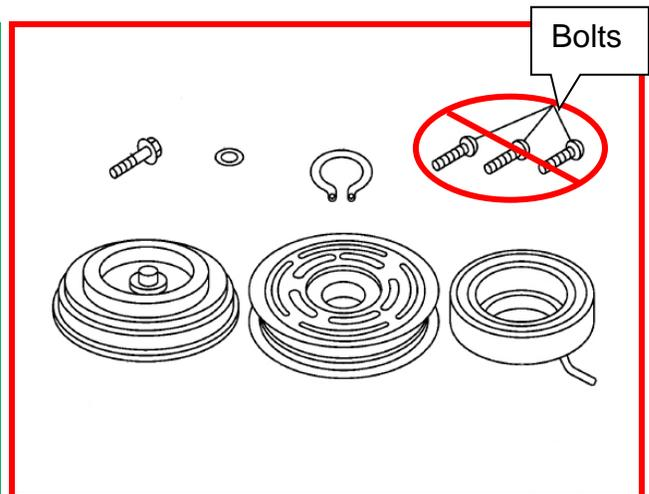

Figure 5
- Figure 5 (and illustrated in the ESM) is incorrect for the applied vehicles. The magnet coil is not attached by three bolts.